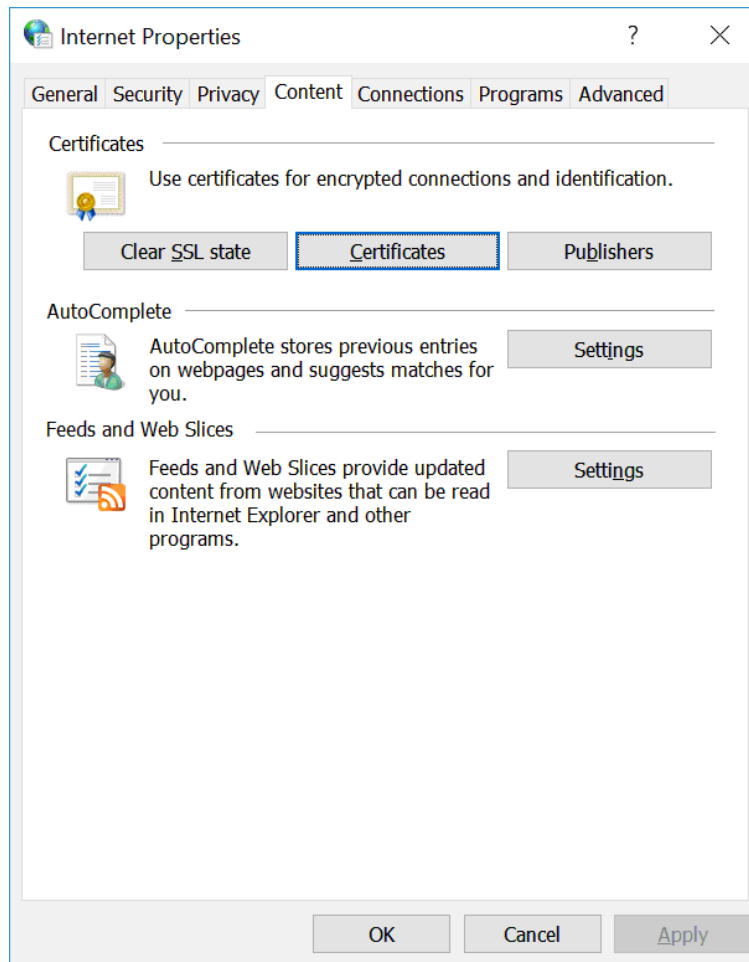

Figure 336: Internet Properties, Content Tab
1. In Windows, click on the Start Menu, type Internet Options, then press the Enter key to open the Internet Properties screen, as shown in Figure 336.